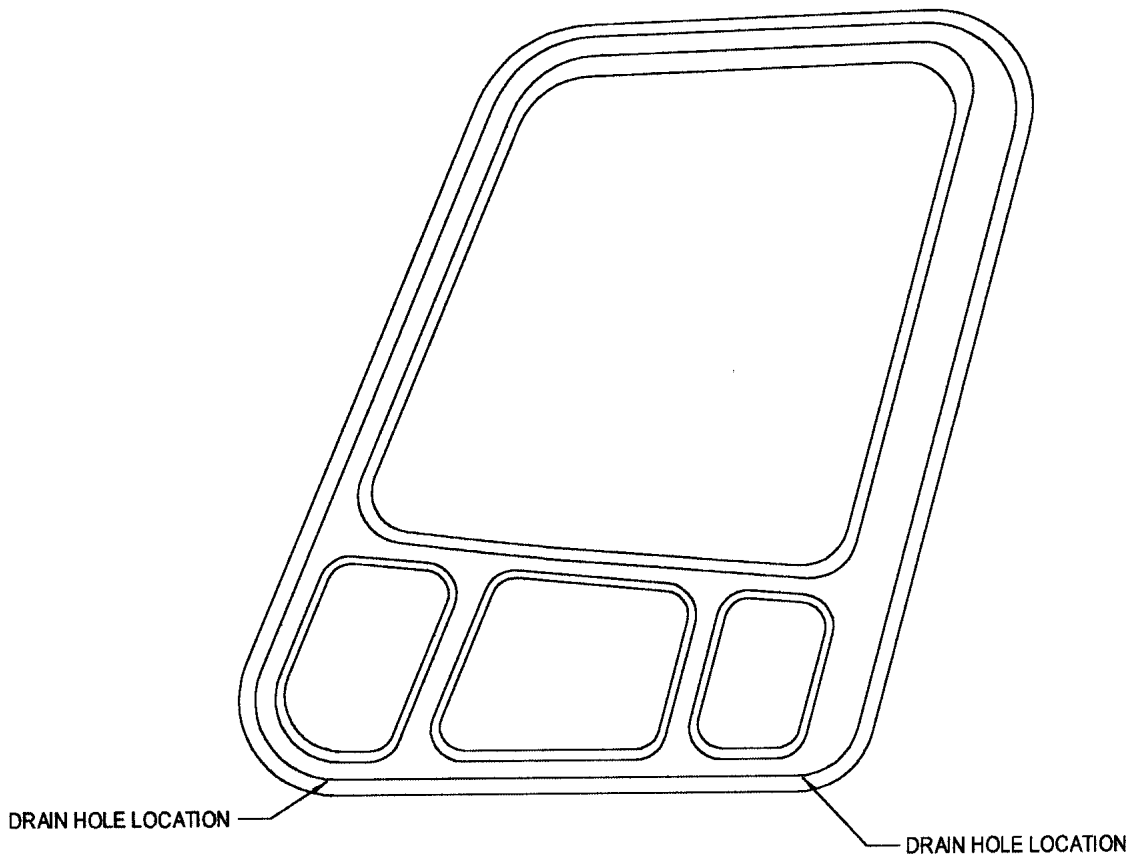

FIGURE 1
2. Referring to Figure 1, mark the locations for the drain holes.